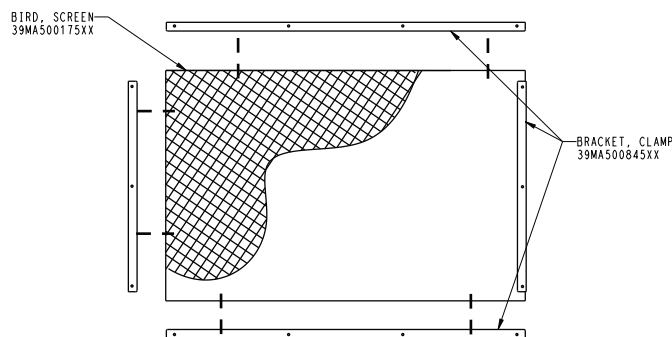

Fig. 80 — Mounting the Bird Screen
9. Mount the four brackets to the bird screen. See Fig. 80.